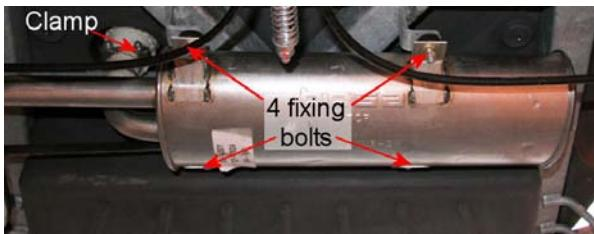

Fig 5-8 Exhaust chamber fixing points
2. Remove the four screws securing the exhaust chamber (*Fig 5-8*) and remove the chamber.